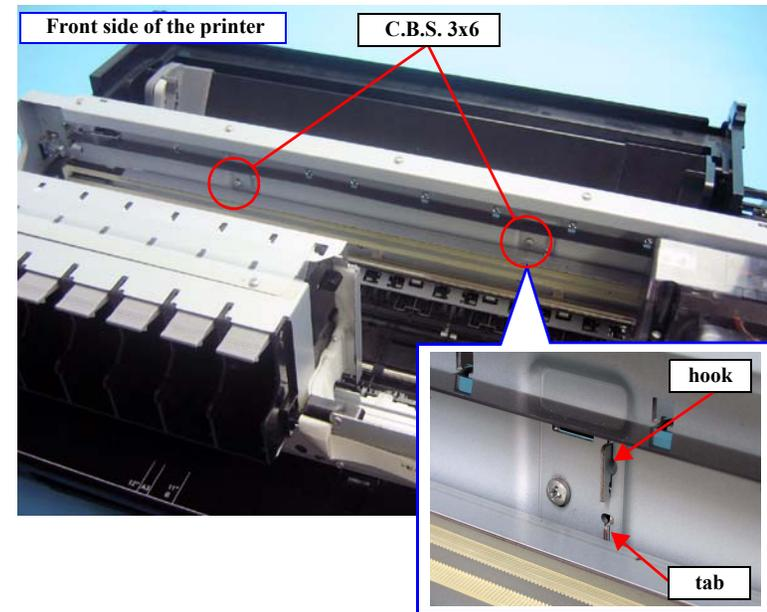

Figure 4-147. Screws, hooks and tabs that secure the GUIDE, ROLLER, LD
3. Remove the two screws that secure the left and right GUIDE, ROLLER, LDs, and remove the two GUIDE, ROLLER, LDs. See Figure 4-147.